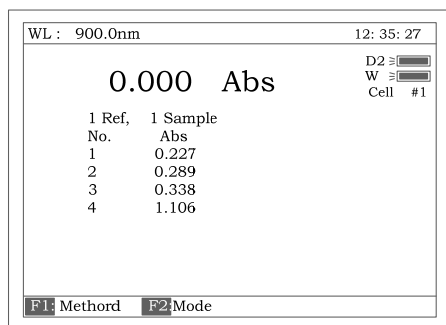

Fig 104
4. Press **[START]** .Automatically the reference is taken in cell NO.1, the 4 samples are taken in cell NO.2-NO.5. The results are displayed as Fig 104.